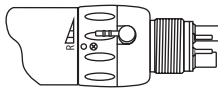

Fig. 4
- (2) Reverse Rotation : Turn the FWD/REV Change Ring to “R” as shown in Fig. 4.